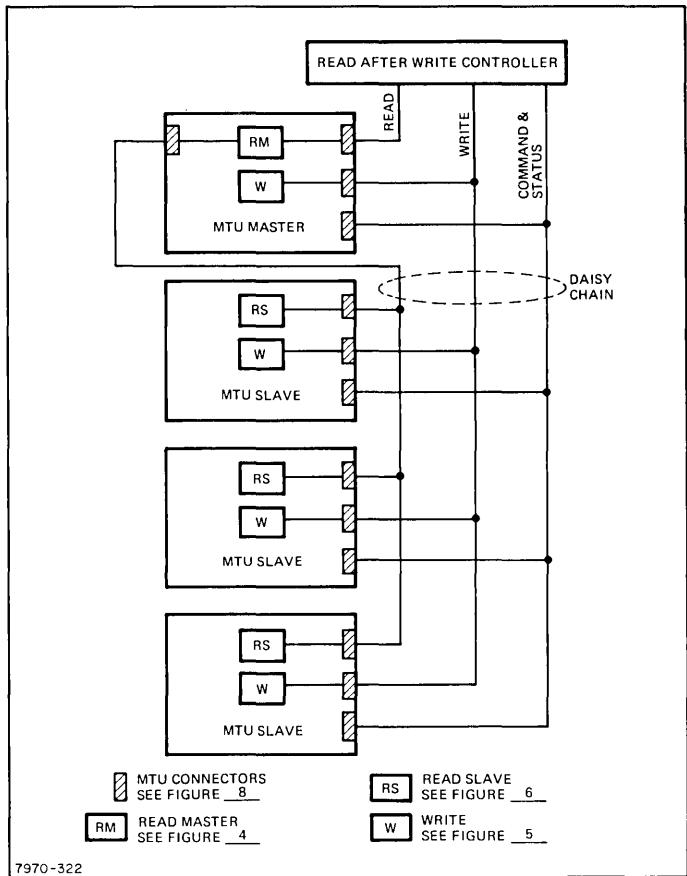
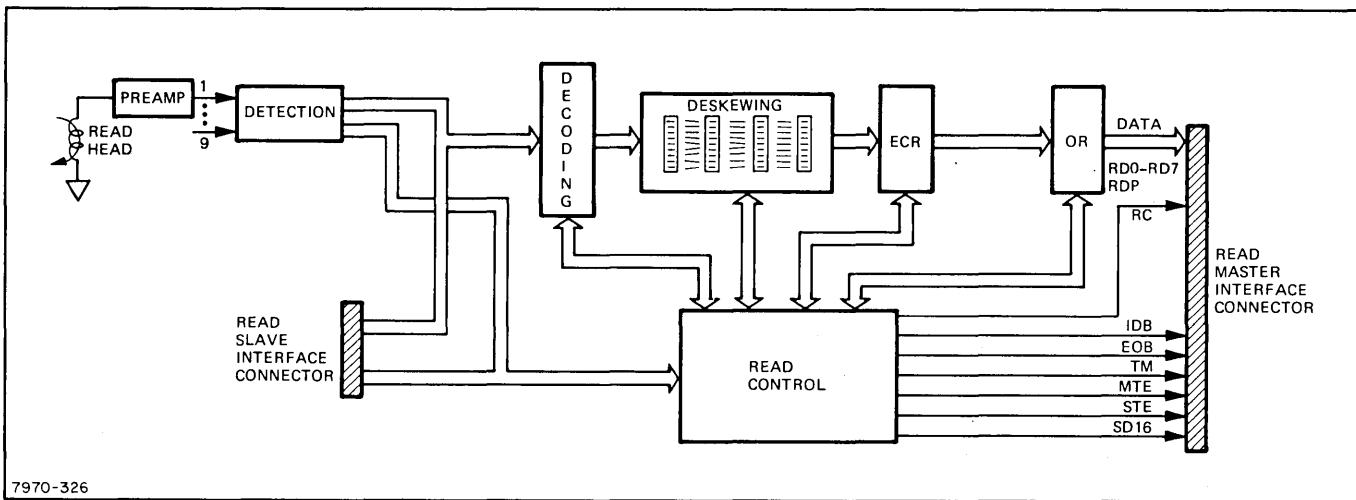

Figure 1. Read-After-Write 1600 CPI Phase-Encode Configuration
Figure 4. Master MTU 1600 CPI Read Data Electronics
The HP Model 7970E Magnetic Tape Unit features 1600 CPI phase-encoded (PE) data capability at speed ranges of 10 to 45 ips. The 7970E is available as a master unit, as a slave unit, or in master/slave-unit combinations using the inherent parallel-connection (daisy-chain) capability. (See figures 1 thru 3.) The master unit contains the following phase-encoded read data functions (figure 4):
- Tape Mark (TM) Detection
**a. READ-AFTER-WRITE** (9-Track PE Read-After-Write). Both master and slave units contain the same write and command-and-status electronics. (See figure 1.) All formatting and parity generation of the write data must be accomplished in the controller. (Optional write formatting is available.) Complete PE read data electronics is contained only in the master unit. Slave unit read capability is accomplished through the master read electronics for multi-unit parallel-connection operations.
Preamplification and detection are provided in both the master and slave units. The PE read data electronics is provided only in the master unit. (See figure 4.) The Read Control monitors and directs the functions of data decoding, deskewing, error correction (ECR), and output buffering (OR). The PE read data electronics provides nine data lines, a Read Clock per PE tape byte, and block status signals to the controller interface.